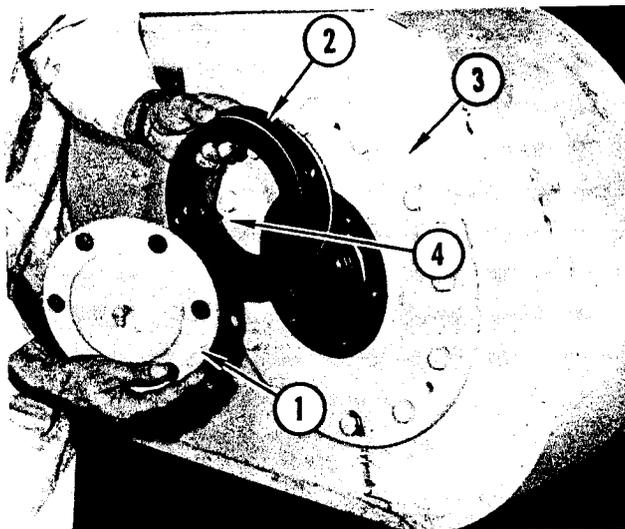

FIGURE 111. INNER ECCENTRIC HOUSING
Refer to Figure 111. Remove six capscrews and lockwashers retaining hub cap (1) to inner eccentric housing (3). Remove hub cap and shims (2). Remove twelve capscrews and lockwashers retaining inner axle carrier to tandem housing and remove inner eccentric housing and gasket. Remove bearing cup from eccentric housing.
notch in flange, Figure 111, is toward center of tandem housing.